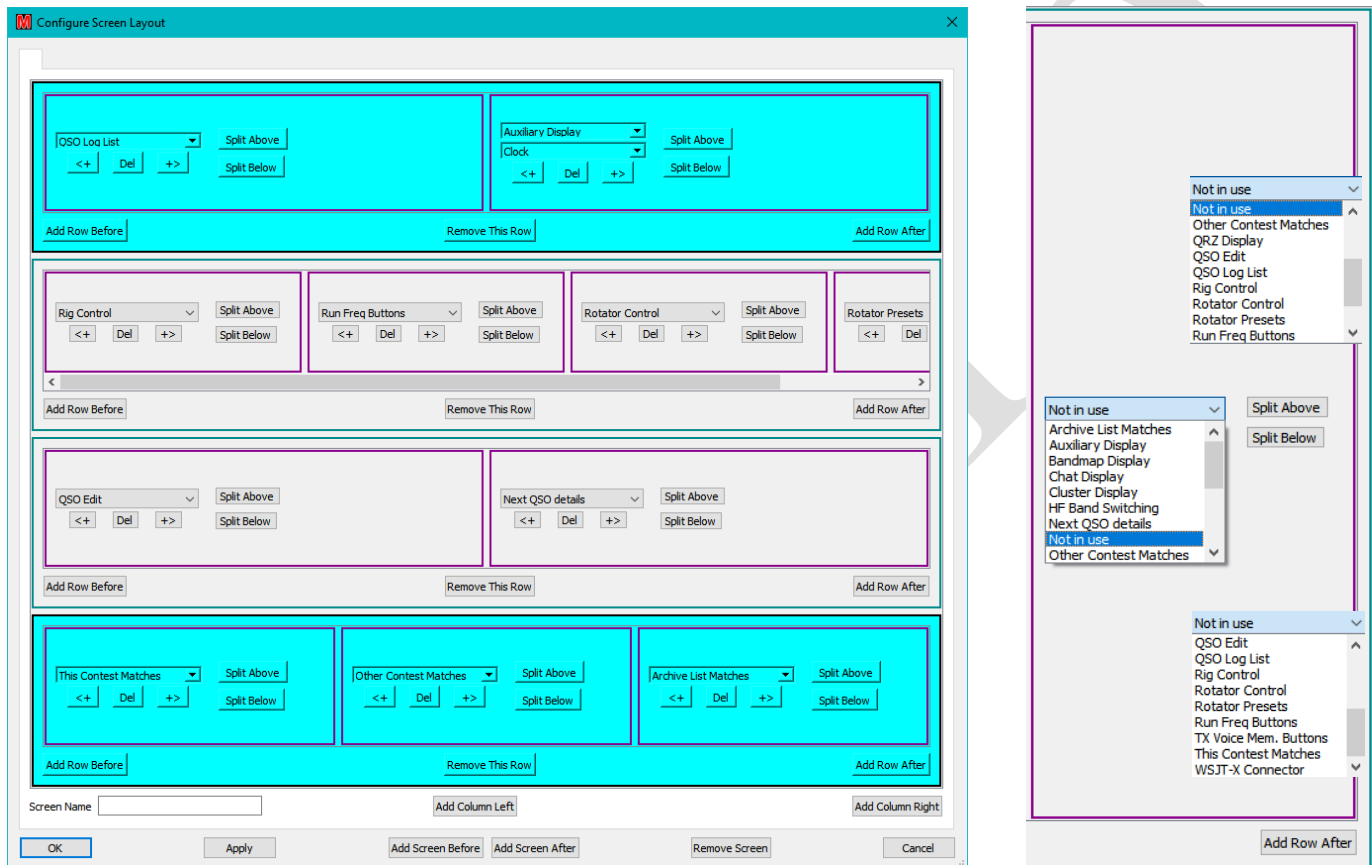

Figure 55 – Add column to left/right
- “**Add Column Left/Right**” is typically used for the Bandmap Display54 (Figure 55 right), although other panels may be configured. The extent of the column is marked using the CTRL key (Figure 55 left) and clicking to select the top and bottom rows, then clicking the requisite button55.